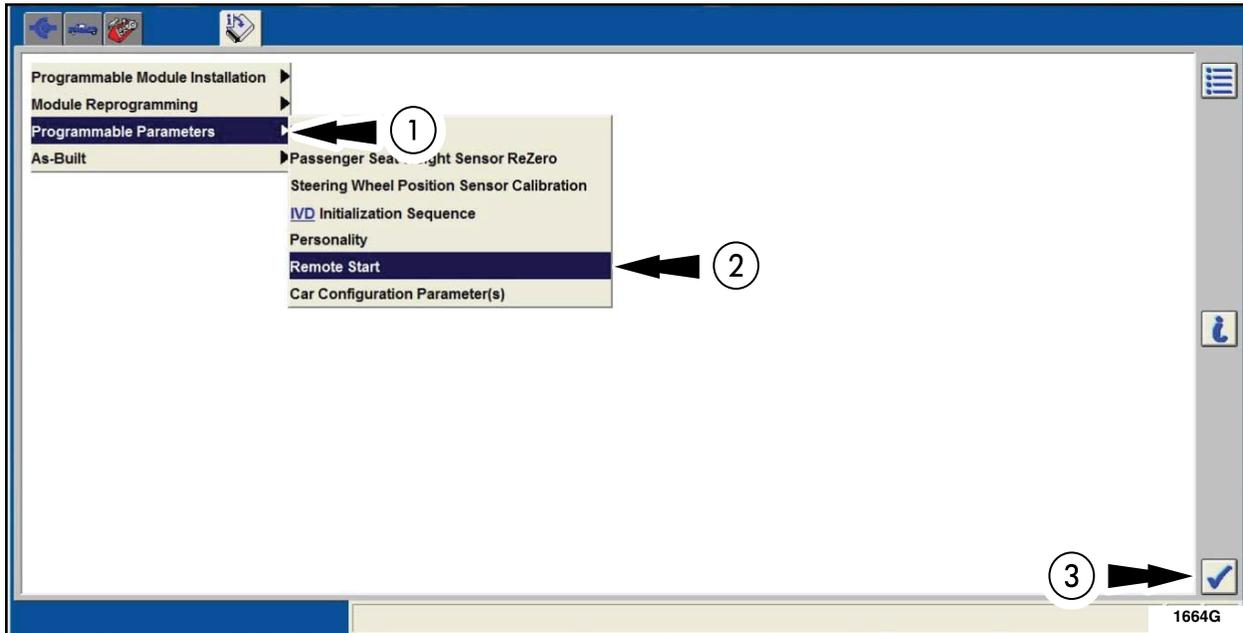

FIGURE 5
5. Return to Programmable Parameters and then select Remote Start. Click the tick mark. See Figure 5.